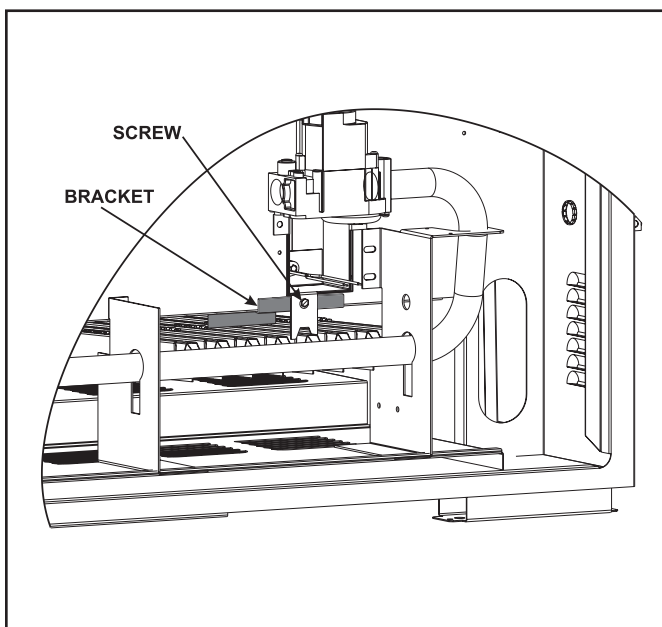

Figure 7. Install the Air Deflector Bracket
1. Remove the screw that holds the bottom of the igniter box to the inner panel (see Figures 7 and 8).